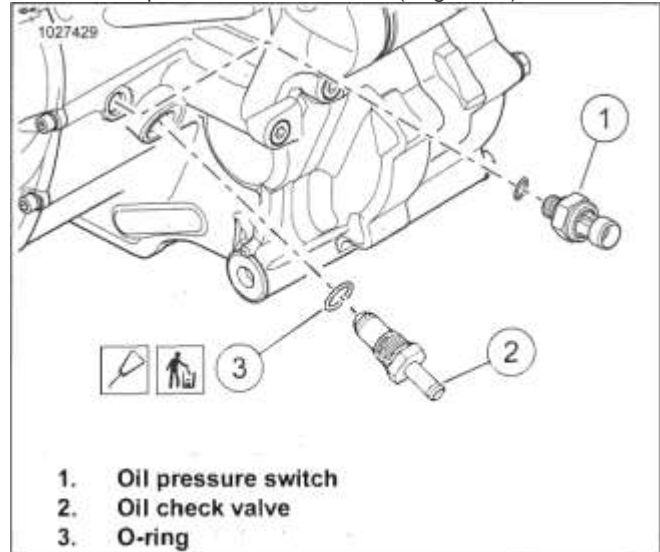

Figure 4-13. Oil Check Valve
1. See Figure 4-13. Disconnect hose from oil check valve (2) . See CRIMP CLAMPS (Page 4-16).
3. Discard O-ring (3).
1. See Figure 4-13. Lubricate **new** O-ring (3) with fresh oil.